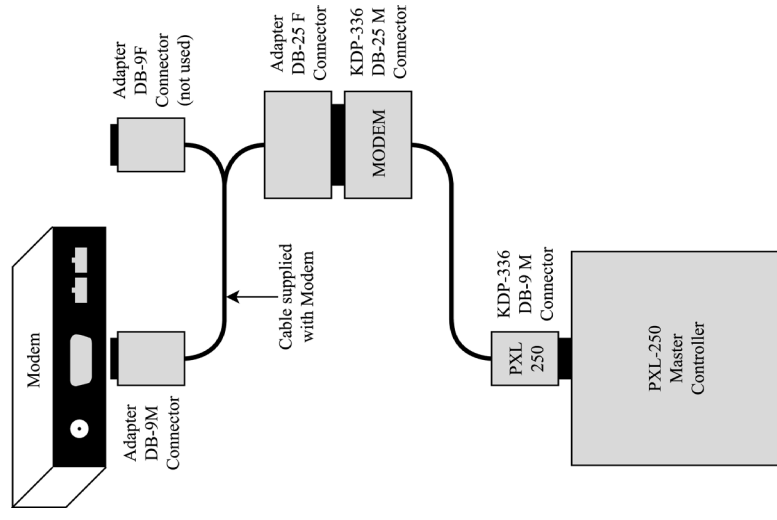

Figure 2: Modem DB-9M to Master Controller DB-9M via Adapter Cable and KDP-336 Cable
- a. Modems purchased from Keri Systems come with an adapter that accommodates a DB-9F connector. If the modem has a DB-9 (instead of DB-25 connector), use this adapter with a KDP-336 to make the modem/controller connection (see Figure 2).